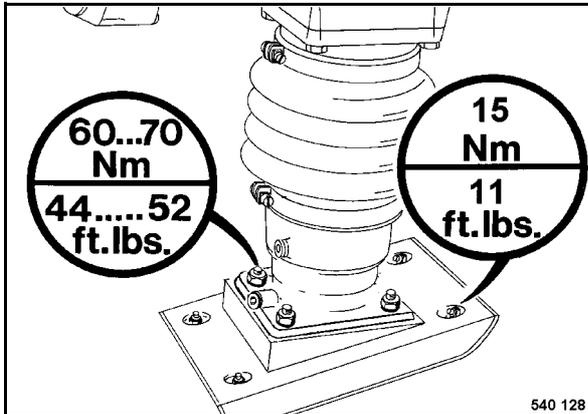

Fig. 43
- Retighten the screws (Fig. 43).